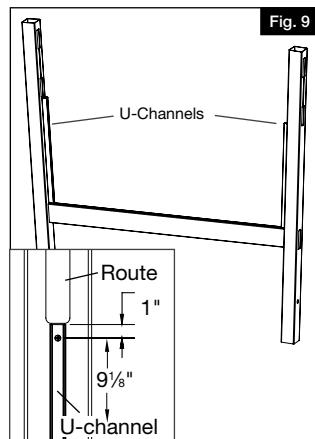

Fig. 9
- Pre-drill 5 holes with a  $\frac{1}{16}$ " drill bit, spacing out holes as shown (Fig. 9)